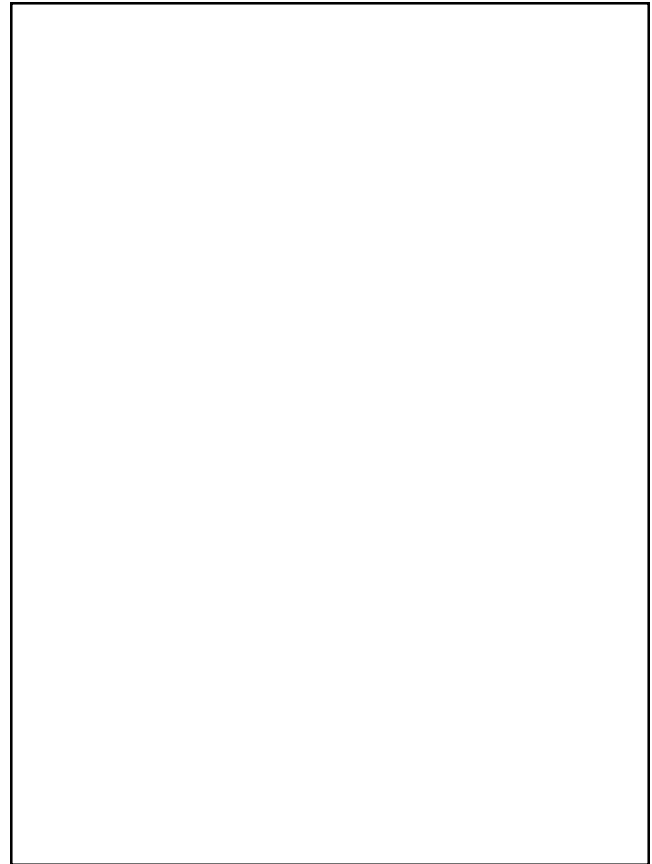

Figure 3-1. Phasing check using hot-line stick and phasing testers
*c. Phase differences.* Before connecting two or more circuits together the phases of the circuits should be checked. A short circuit will occur when two circuits having different phases are connected to each other. Only circuits of same phase can be connected. When two circuits are in-phase the voltages across the circuits will be zero. For a power system less than 600 volts a voltmeter can be used for phase testing. For a power system larger than 600 volts a hot stick and high voltage voltmeter should be used (See figs 3-1 and 3-2).